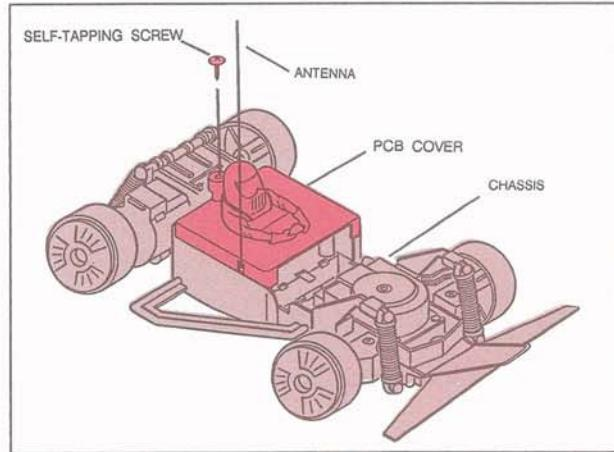

FIG. 83
2. Install the PC board compartment cover, using an H1 self-tapping screw, as illustrated in Fig. 83.